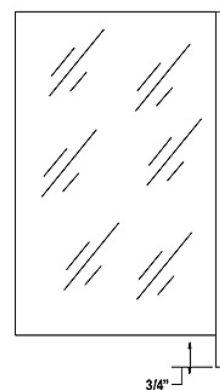
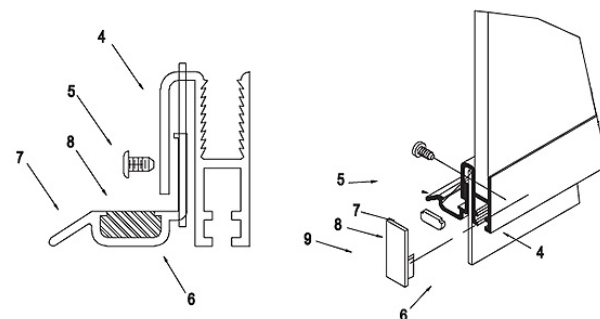

FIGURE 2
FIGURE 3
2. The hinge jamb and hinge rail (11 & 12) are packaged assembled. Before glazing the hinge rail (2), remove hinge jamb (11) and sleeve (10) from hinge rail. Failure to do so will cause damage to metal while glazing and result in the door hinge binding. Hold hinge rail in place against vinyl with a glazing block and glaze using a hammer. Hinge rail should extend 3/4" below bottom of glass (Figure 2) and be straight from end to end.
3. Apply bottom glazing vinyl (3) to the bottom of the glass. Hold bottom rail (4) in place against the bottom glazing channel and drive the bottom rail in place on the glass using the glazing block and a heavy steel hammer. Secure hinge rail to bottom rail using one #8x 1-1/4 FH SMS screw. Start three #6 x 1/4" SMS B screws (5) into the bottom rail. Insert the splash vinyl (6) and the drip trough (7) into the bottom rail. Splash vinyl should flush off with latch end of bottom rail and butt to offset of the hinge rail at other end. Flush-off drip trough with notch back on bottom rail at latch side. Push drip trough as far up as possible on latch side and as low as possible on hinge side and secure by tightening the three #6 x 1/4" SMS B screws (5).
4. Insert the drip plug (8) into the end of the drip trough at the handle side. Water should now drain back into the shower when the door is open. Insert the bottom end rail cap (9) in the end of the bottom rail (4) (see Figure 3).